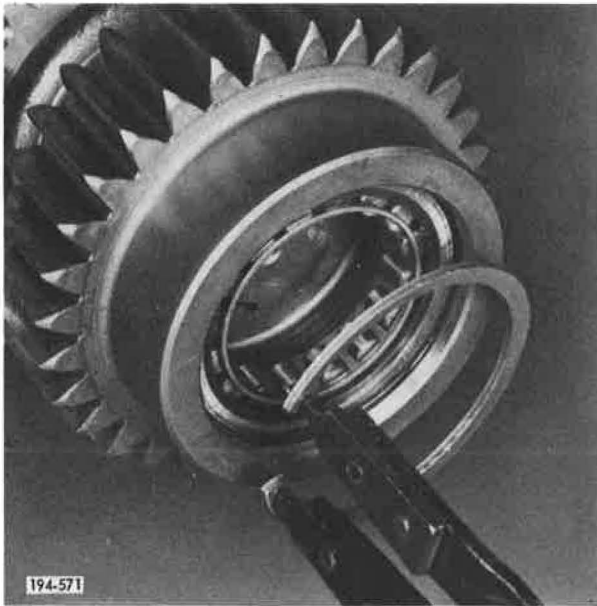

Figure 5-318. Removing Snap Ring
1. Remove rear countershaft front bearing retaining snap ring, using snap ring pliers J-4646 or equivalent. See Figure 5-318.